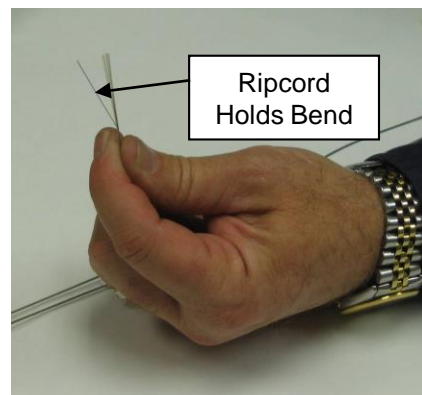

Figure 9
6.4.3 The glass strands will be straight while the Polyester ripcords will hold the bend making them much easier to see. **See Fig. 9.**